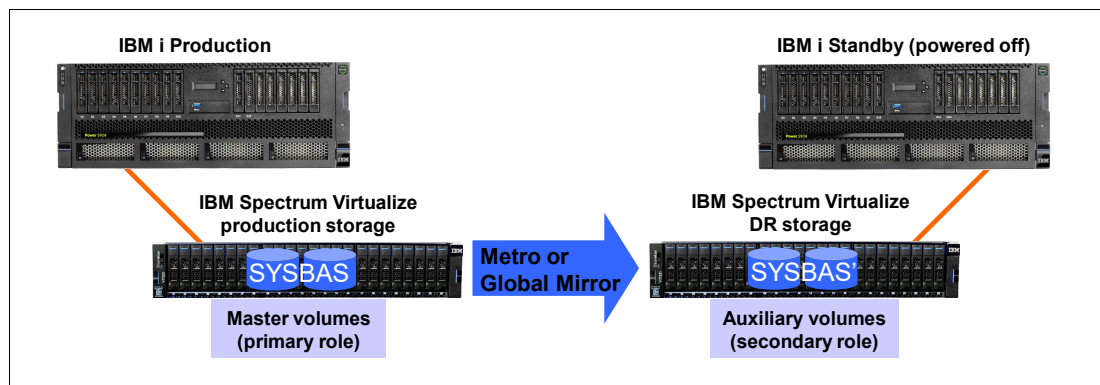

Figure A-11 IBM i full system replication with IBM Spectrum Virtualize
Full system replication is used for Disaster Recovery (DR) purposes where an IBM i standby server is used at the DR site, as shown in Figure A-11. When a planned or unplanned outage occurs for the IBM i production server, the IBM i standby server can be started (IPLed) from the replicated SYSBAS volumes after they are turned on IBM Spectrum Virtualize to a primary role to become accessible for the IBM i standby host.